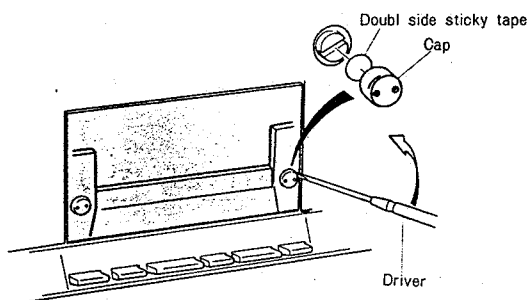

Fig. 2
- 1) Remove the cap using a small screwdriver, etc. because it is fastened to the screw of the cassette lid using both-side tape. (See figure 2)